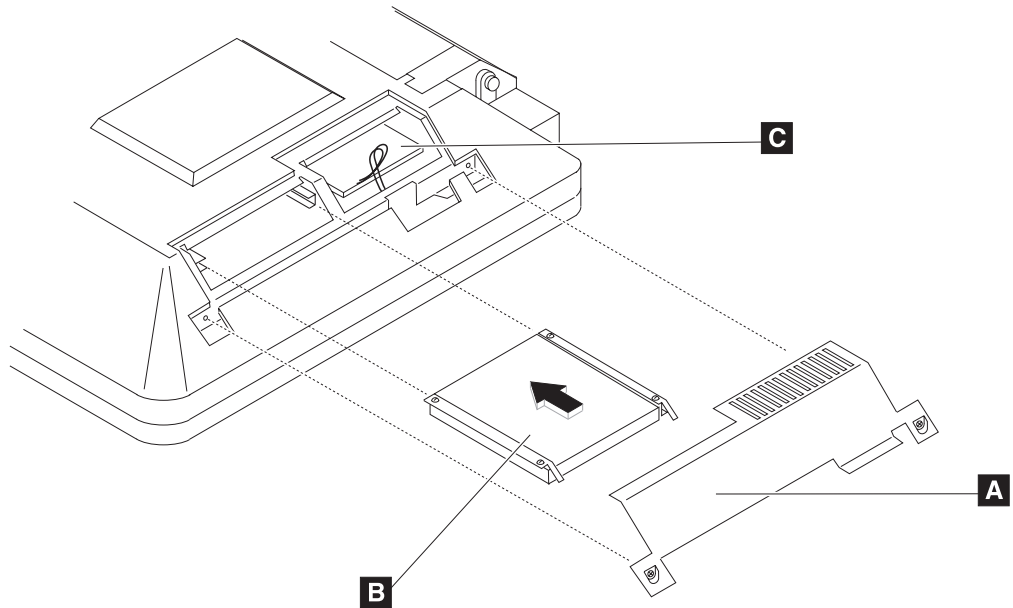

Figure 8. Removing the hard drive cover
2. Unfasten the two captured screws to remove the HDD door (**A**). See Figure 8.